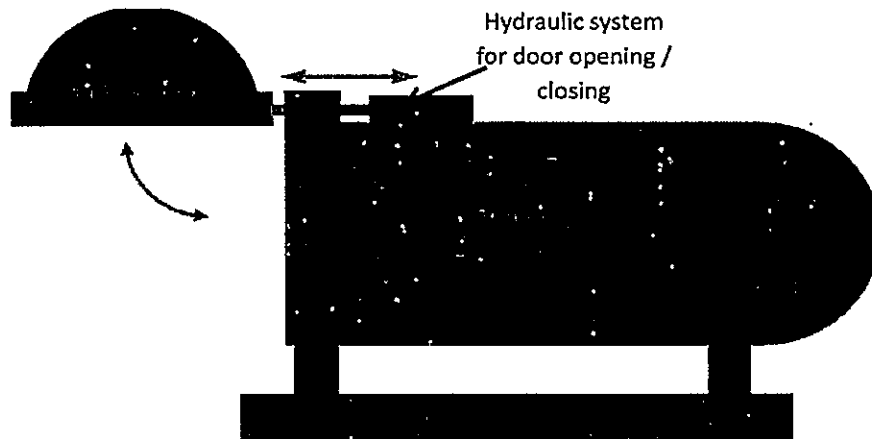

Figure 1 Furnace and its door
- b. Design a hydraulic circuit for a furnace door to be opened and closed. Figure 1 shows the schematic of the furnace and its door that to be controlled. List the components and propose a suitable hydraulic circuit.